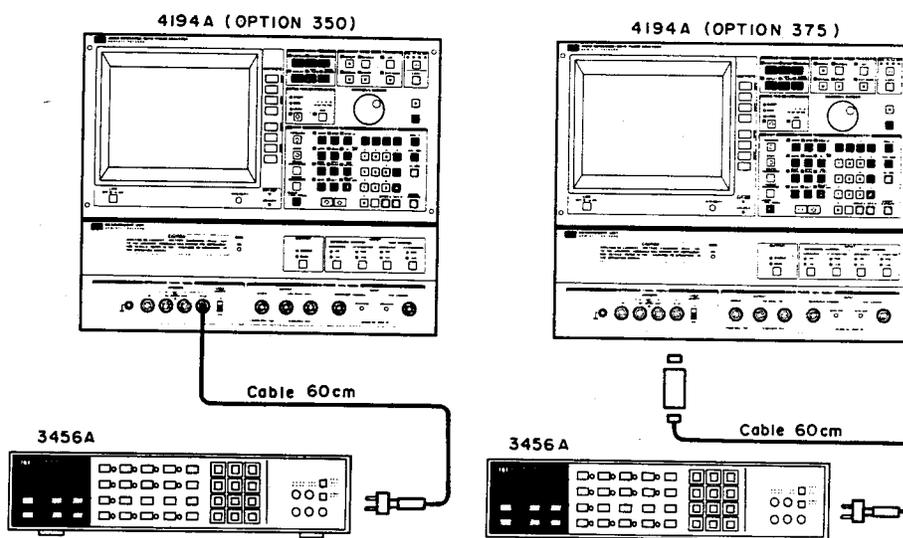

Figure 4-29. Impedance Measurement Signal Level Test Setup 2
1. Set up the equipment as shown in Figure 4-29.